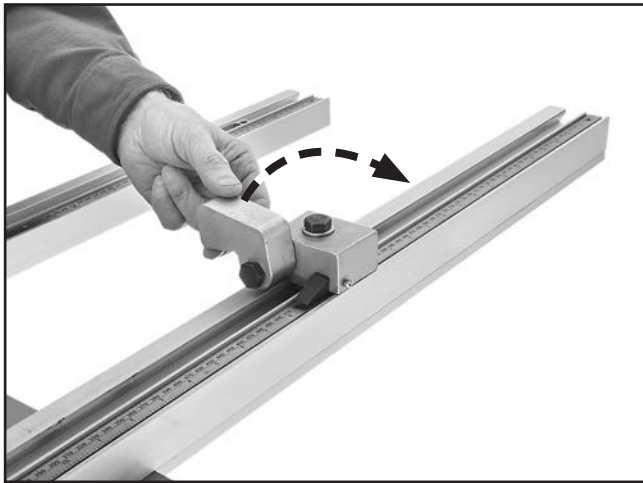

Figure 34. Moving stop block finger to up position.
- Put stop block finger in up position when not in use (see **Figure 34**).